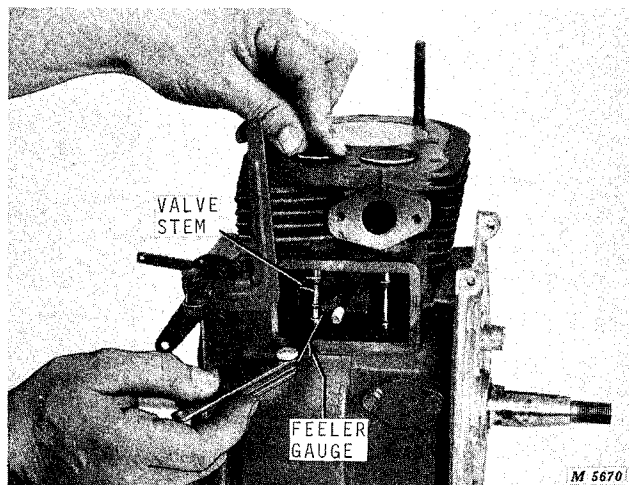

Fig. 22-Checking Valve-to-Tappet Clearance
3. Check clearance between bottom of each valve stem and its tappet with a feeler gauge, Figure 22. Refer to "Specifications," page 10-11, for proper valve clearance. On K181S Engines, grind valve stems for correct clearance. The K241AS Engines have adjustable tappets which will take up the additional clearance created by grinding the valve stems.